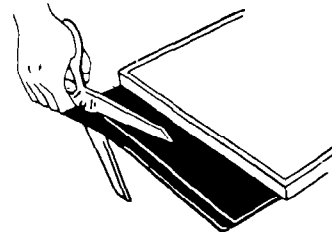

FIGURE 16
- Use a pair of scissors and cut toe plate along this line. See Figure 16.
3. Remove spacer and inside panel. See Figure 16.